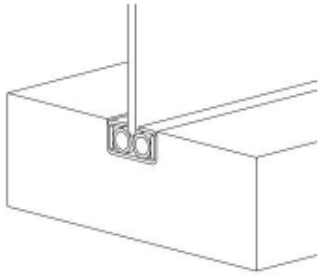

Fig. 6
- The bottom profile, if existent, requires onsite embedding with filler or mortar acc. Fig. 6.